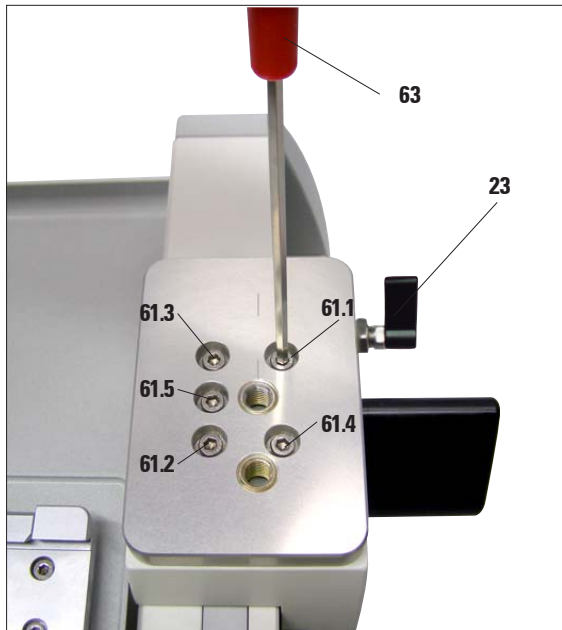

Fig. 10
- Insert the five fillister head screws (61.1-61.5) in the bores and using a Hexagon wrench T25 (63) tighten them firmly, cross-wise (in the sequence shown in Fig. 10).